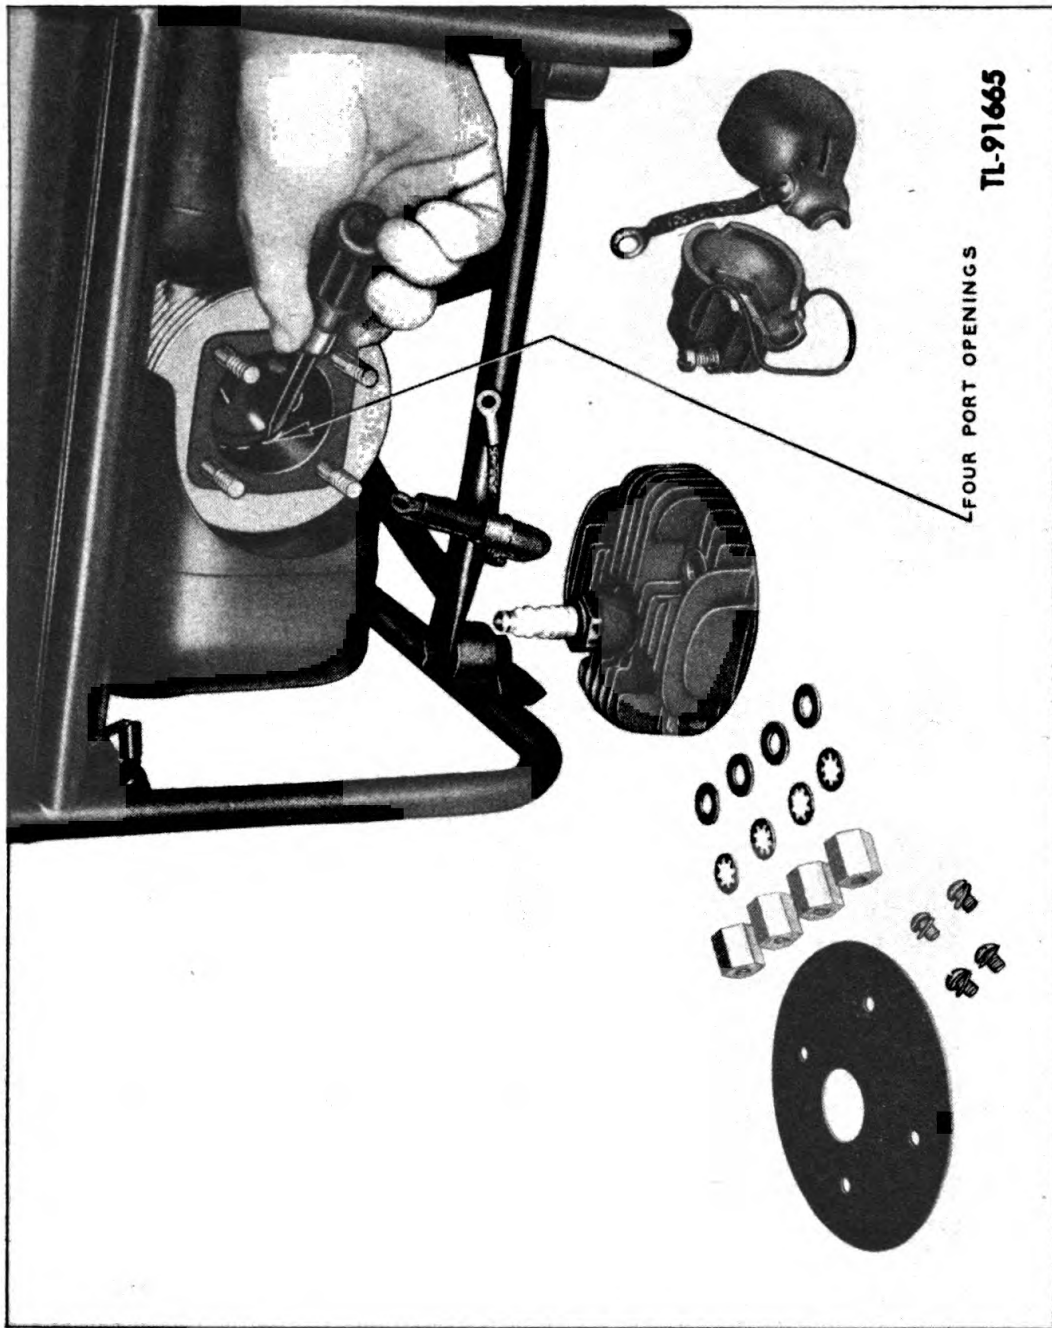

Figure 17. Carbon removal, intake ports
(2) **Intake ports.** Access to the intake port holes (fig. 17), for cleaning, is attained by removing the spark plug shield, spark plug, cylinder-head baffle, and cylinder head. Turn the engine over until the piston is on bottom dead center. The openings can then be cleaned out, using the same tool as for the exhaust ports. Be sure no chips remain in the cylinder, as they will foul up the spark plug in starting. To facilitate reaching the intake port openings, remove the muffler.